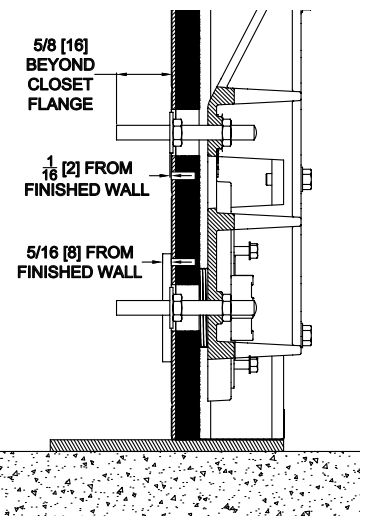

Figure 7
- a. Wall mount water closet will use (4) 5/8" threaded rods and rods should extend no more than 5/8" [16] past the closet bowl flange. The holes in the finished wall should be sized appropriately to accommodate backing nut and washer adjustment, approximately 1-3/4" [44.5]. The 4 locknuts to be torqued to 70-75lb-ft [94.9-101.7 N-m].
- b. Floor mount back outlet water closet will use (2) 3/8" threaded rods and rods should extend no more than 5/8" [16] past the closet bowl flange. The holes in the finished wall should be sized appropriately to accommodate backing nut and washer adjustment, approximately 1" [25.4]. The 2 locknuts to be torqued to 12-17lb-ft [16.3-23.1 N-m].
6. Ensure the hole in the finished wall is large enough to accommodate the flange of the coupling, approximately 4-3/4" to 5" [120.7 to 127] diameter. Referencing the instruction on the O-ring bag, lubricate O-ring and coupling threads with provided lubricant. Insert O-ring into groove in faceplate and thread coupling into faceplate. Ensure coupling flange extends 5/16" [8] past finished wall. (Figure 7)
- a. For wall mount water closet, thread a 5/8" bearing nut and slide a bearing washer onto each of the (4) threaded rods. Adjust hardware so that there is a 1/16" [2] gap between the front of finished wall and back of fixture ensuring all bearing washers make contact with the fixture.(Figure 7)